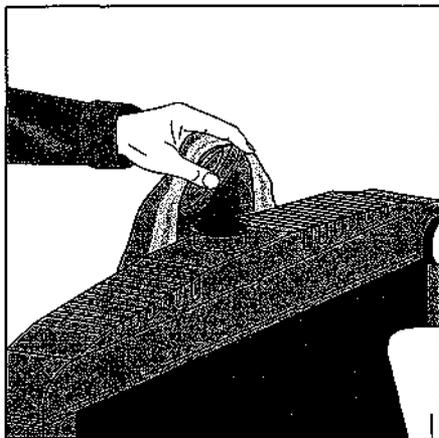

Figure 14-1:
To keep from burning your hand, place a cloth over the cap after you raise the lever (see Figure 14-1).
2. ***Tilt the cap as you remove it so that the opening points away from you (and anyone else nearby) — again, see Figure 14-1.***